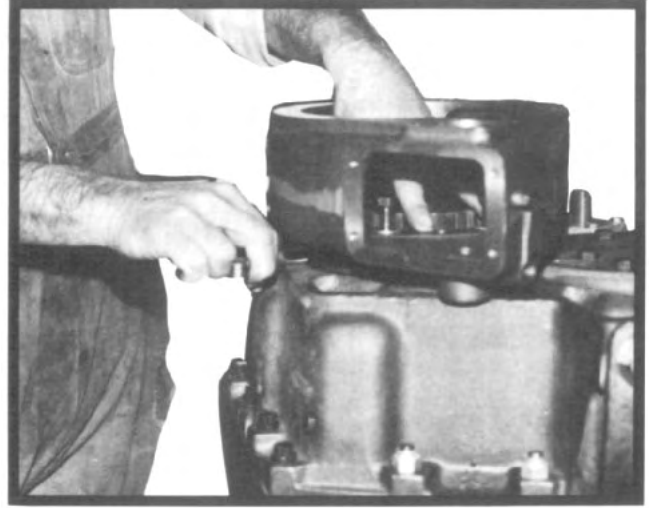

Fig. 18
9. Tap input shaft down to seat the shaft into the bearings. Place the PTO housing or rear cap into the input shaft rear housing bore. Measure with feeler gauges the amount of clearance between the cap and the housing (see fig. 18 and 19). Add .005" to this dimension and add the necessary shims to match that calculated dimension. Assemble PTO housing or rear cap to housing and secure with the proper bolts. Tighten bolts to correct torque. See Part F, this section for PTO assembly.